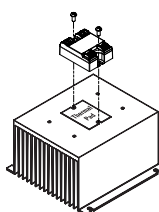

fig. 1 SSR mounted on HS053 heat sink (A)
- SSR mounting slots have a diameter of 0.2 in (5.0 mm). Two screws are needed to mount the SSR onto heat sink (See fig. 1). Mounting screws are sold separately as HK1 and are suitable for all Crydom heat sinks. Otherwise, recommended screw size is 8-32 (UNC standard) or M4 (metric) depending on the heat sink model, see product datasheet. Choose screw length considering the mounting surface hole depth and that SSR baseplate thickness is 0.125 in (3.2 mm).